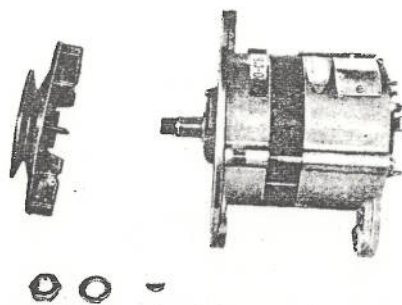

Fig. 10-22
- (1) Remove the pulley clamping nut and then remove the pulley. Remove the brush cover on the rear cover and take out the brush. (See Fig. 10-22)